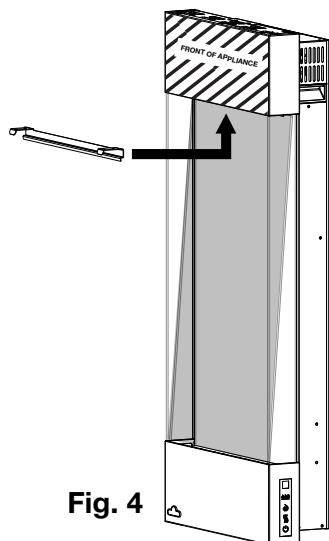

Fig. 4
4. Install the retainer bracket to the top of the appliance as shown, using the 2 screws previously removed in Step 1 (**Fig. 4 and 5**). **Glass should be fixed after installation.**